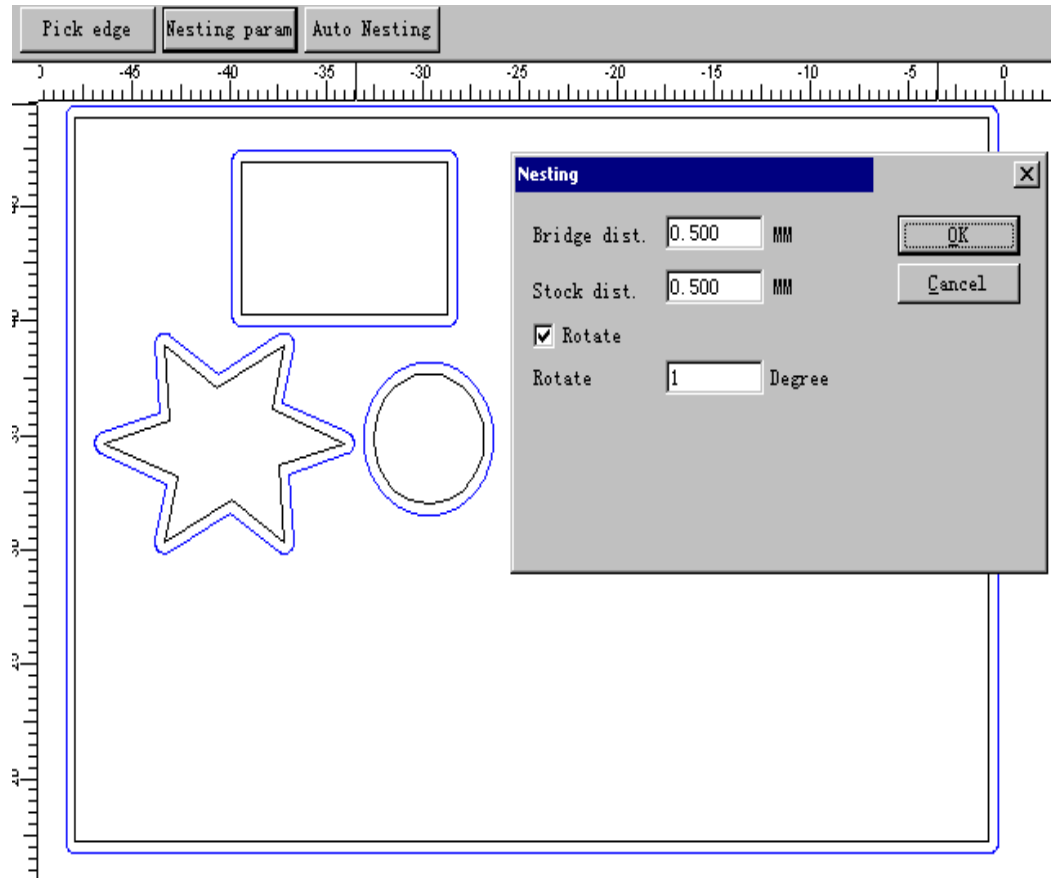

Figure 7-2 Multi part optimization nest dialog box
Step 2. Click the button **Nesting parameter** to sets the required parameters. See Figure 7-2
Step 4. Click **auto nesting** button to start the operation. The result shows in Figure 7-3. (Figures and Parameters are set in Figure 7-2.)